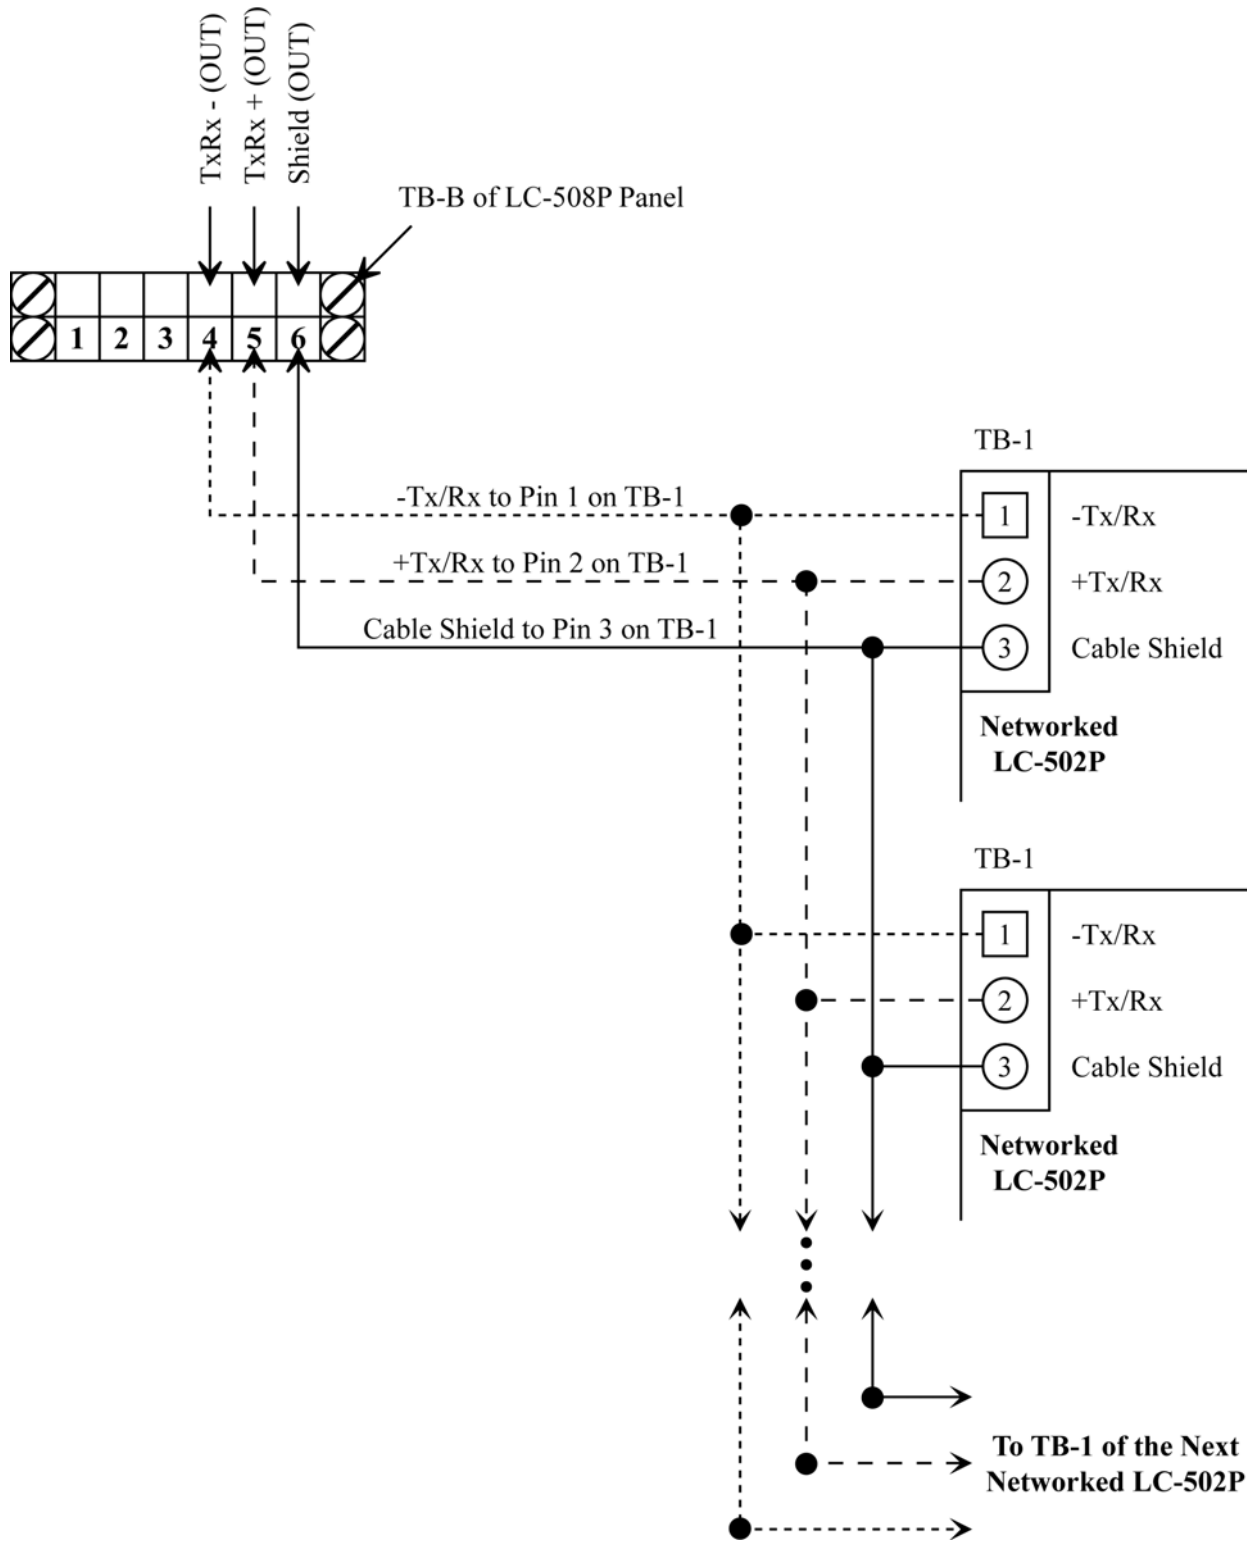

Figure 12: LC-508P to LC-502P Network Communication Wiring
3. Daisy-chain the TxRx+, TxRx-, and Shield Network Communication connections from the terminal strip on the LC-508P to each of the LC-502P panels. Make the connections per the information in Table 6 and Figure 12 on page 19.